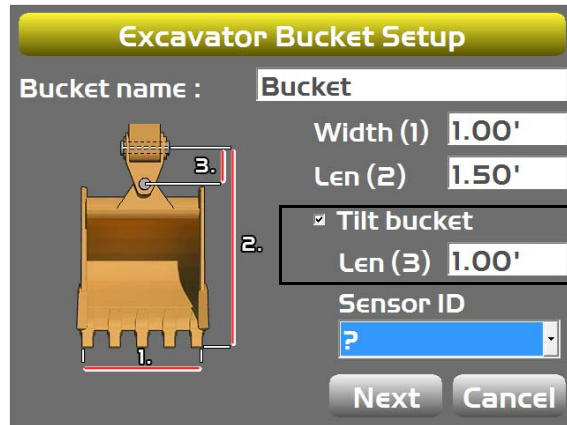

Figure 49: Enter Tilt Bucket Measurements
3. Enter the bucket **Width** and **Length**, and select the **Tilt bucket** check box (Figure 49).
4. Enter a value for the tilt bucket **Length (3)**, and select a **Sensor ID** for the tilt bucket sensor.